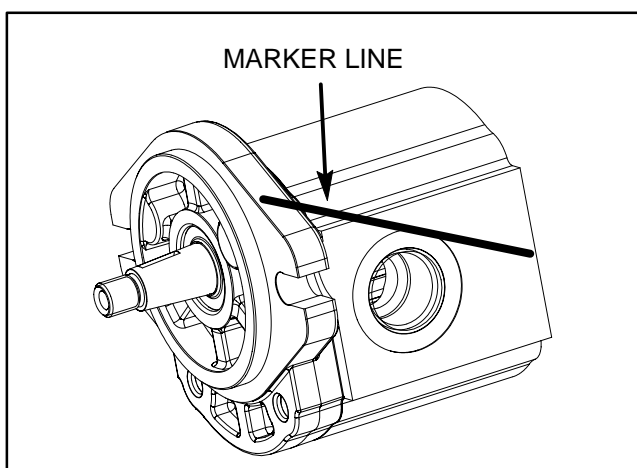

Figure 82
2. Use a marker to make a **diagonal** line across the front flange and body for assembly purposes (Fig. 82).